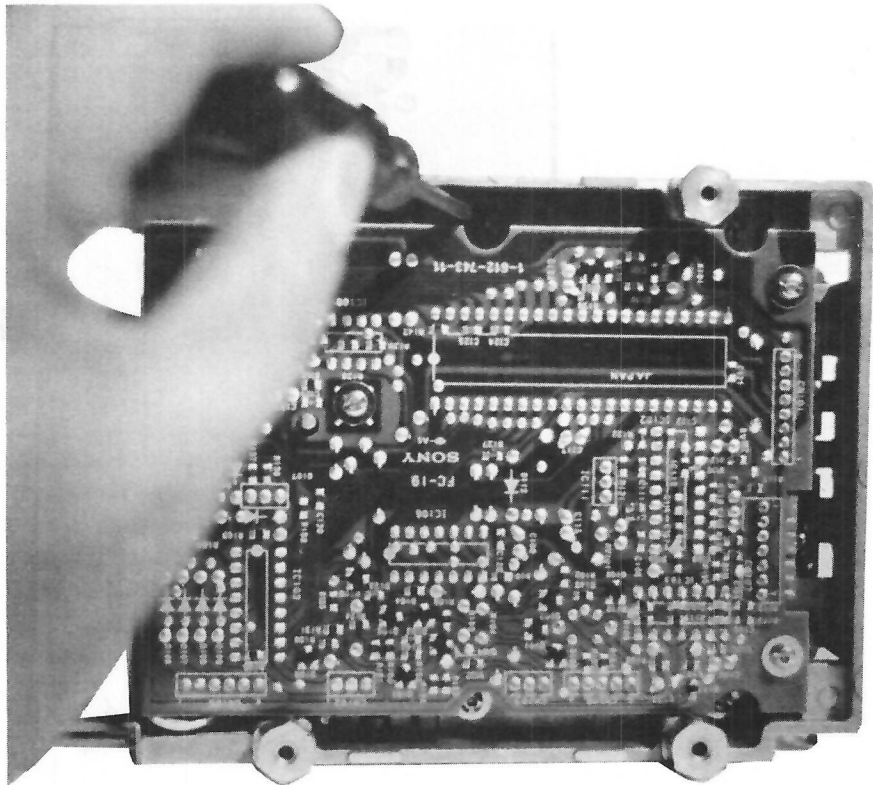

Figure 13-19 Carrier mechanism screw locations.
7. Rotate the drive such that the circuit board is facing up. As shown in Figure 13-19, use a small 1/8-inch slotted screwdriver to remove four gold-colored flat-head screws mounted *beneath* the circuit board.